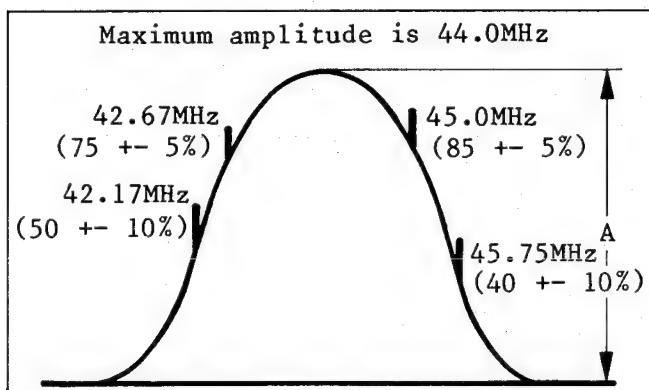

Fig. E30
8. Adjust the VCO (T701) so that the beat portion is at center as shown in Fig. E30.
13. Confirm that the Sweep output waveform is as shown in Fig. E30.